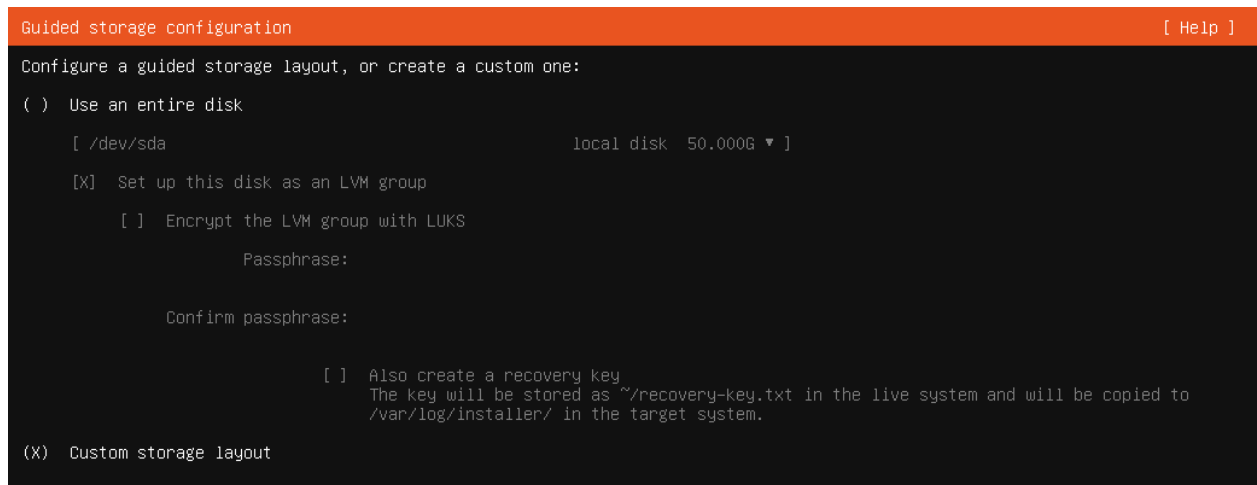

Figure 2.3: Select ‘Custom storage layout’
4. Next, configure the partitioning. We recommend selecting 'Custom storage layout' (figure 2.3) and configuring the partitioning manually, as the automatic partitioning often leaves parts of